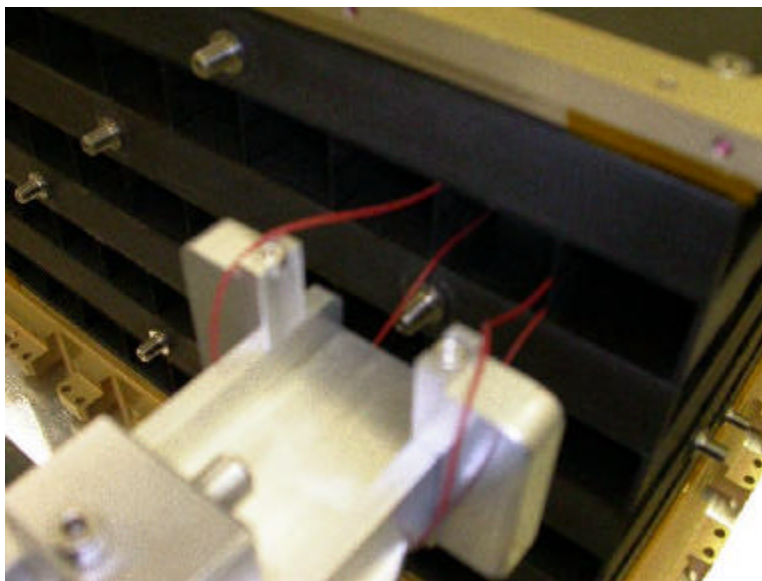

Figure 5.3-5 – Elastic Cords Losing Tension
8. Continue applying pressure to the Teflon wire guide block slowly sliding the CDE into the cell. The elastic cords at the (-) opening of the cell will lose tension as shown in Figure 5.3-5.